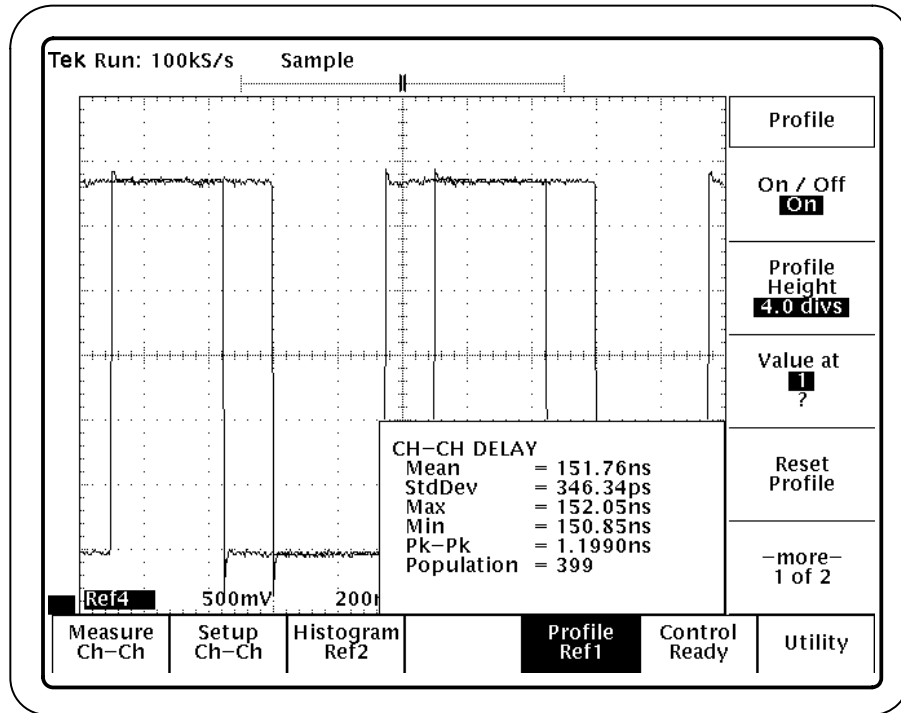

Figure 25: Profile format menu
17. Press Profile (main) → On/Off (side) to select On. Ref1 appears under Profile to indicate that the results will be stored in Ref1. See Figure 25.